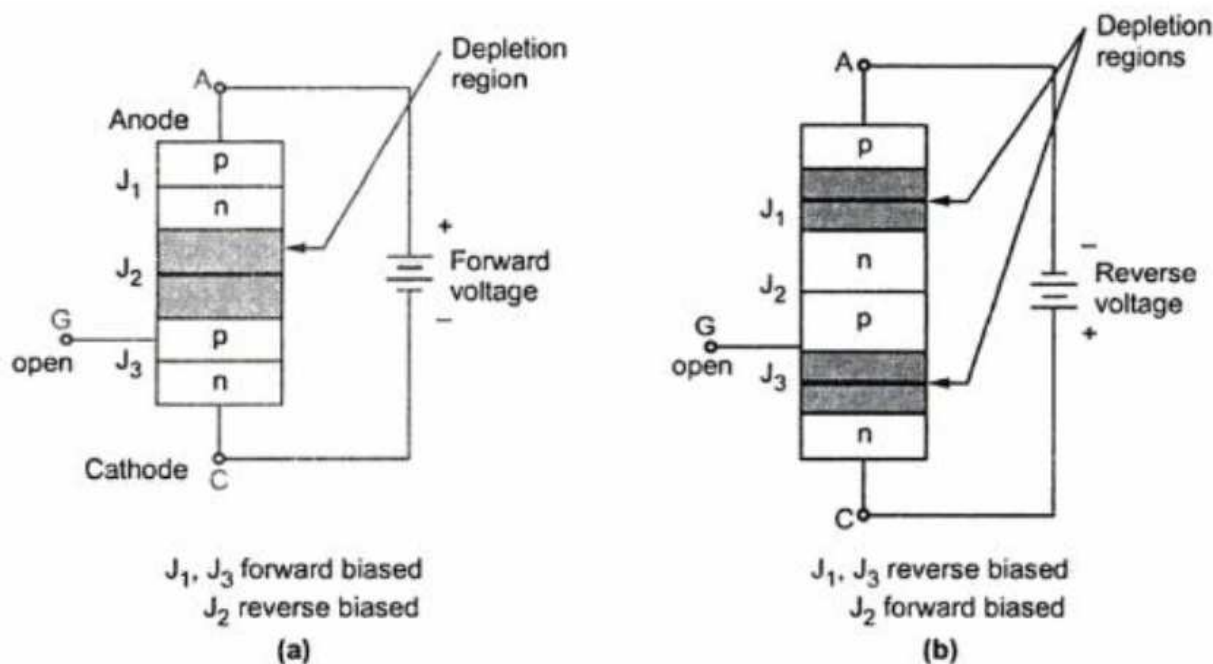

Fig. 5.26 Operation of SCR when Gate is open
- This is shown in the Fig. 5.26 (a).
- This is shown in the Fig. 5.26(b).